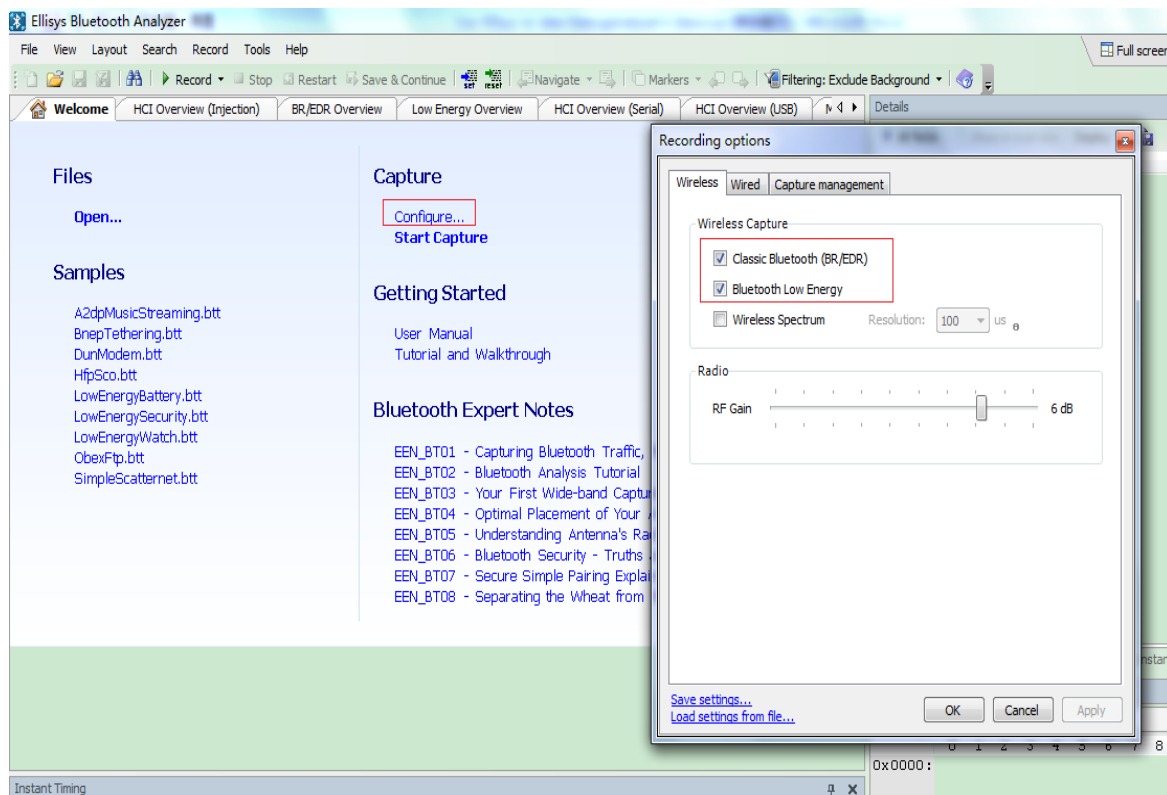

Figure 5-3 Ellisys Configure
2. As shown in Figure 5-3, one should click "Configure ..." to confirm that the "Classic Bluetooth" and "Bluetooth Low Energy" options are selected for the first time.